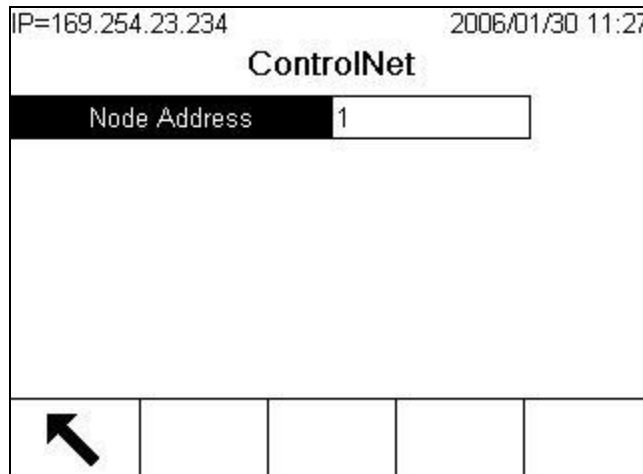

Figure 3-10: ControlNet Setup Screen
The Scale Setup block lets you specify node address of the ControlNet interface. To configure the block, access Communication > PLC Interface > ControlNet (Figure 3-10) and set the Node Address.
1. Figure 3-10 shows the screen with Template selected as the format, revealing the Time Interval, Configure, and directional displays. When Application format is selected, only the Format box appears on this screen.